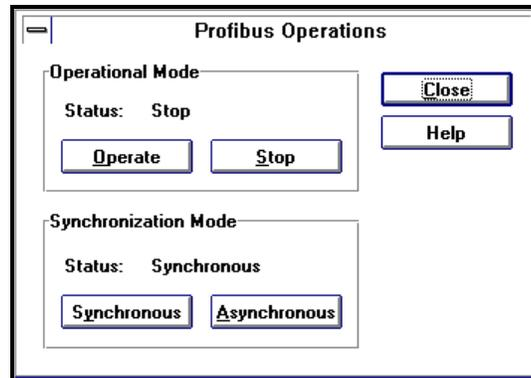

Figure 5.9
**Result:** The Profibus Operations dialog box appears (Figure 5.9).